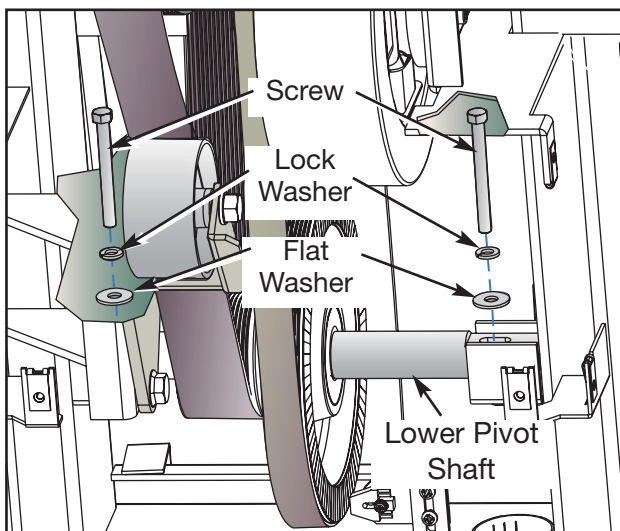

Figure 7
A. Using a 7/16" socket wrench, remove the two screws, two lock washers and two flat washers from the lower pivot shaft. See Figure 7. **NOTE:** The tension is now released. The primary belt can be replaced without loosening the idler pulley.